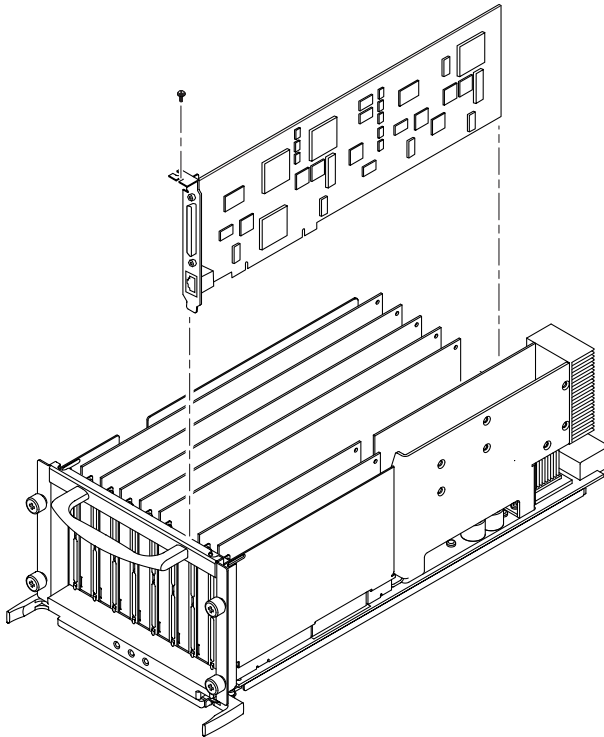

FIGURE 9-6 Removing a PCI Card From the I/O Assembly
3. Remove the PCI card by removing the Phillips screw and pulling the PCI card out of the slot (FIGURE 9-6).